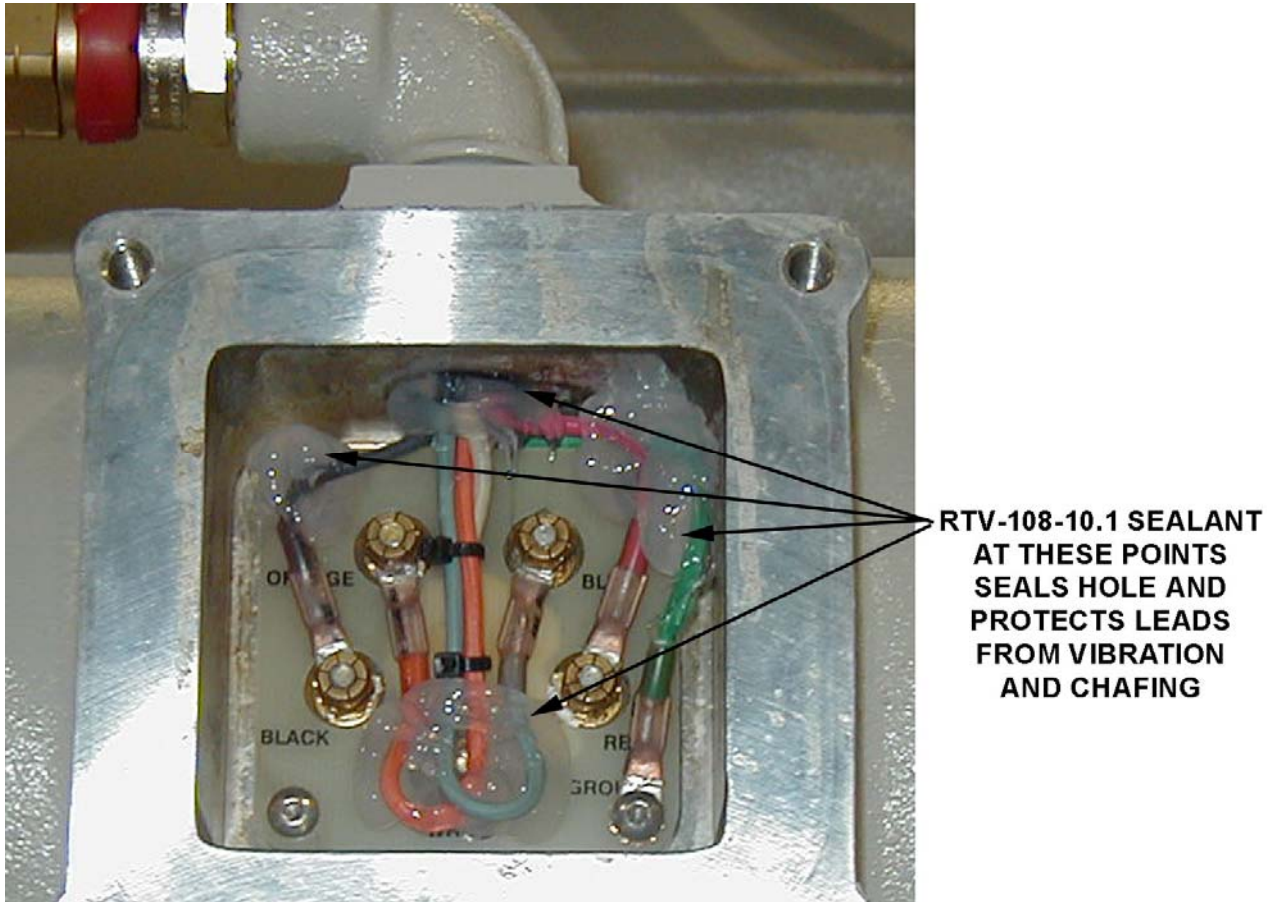

Figure 3 RTV Sealant Application
7. Apply RTV-108-10.1 silicone sealant to leads (Figure 3) for vibration-proofing. Also, be sure to fill threaded hole for additional protection against chafing.